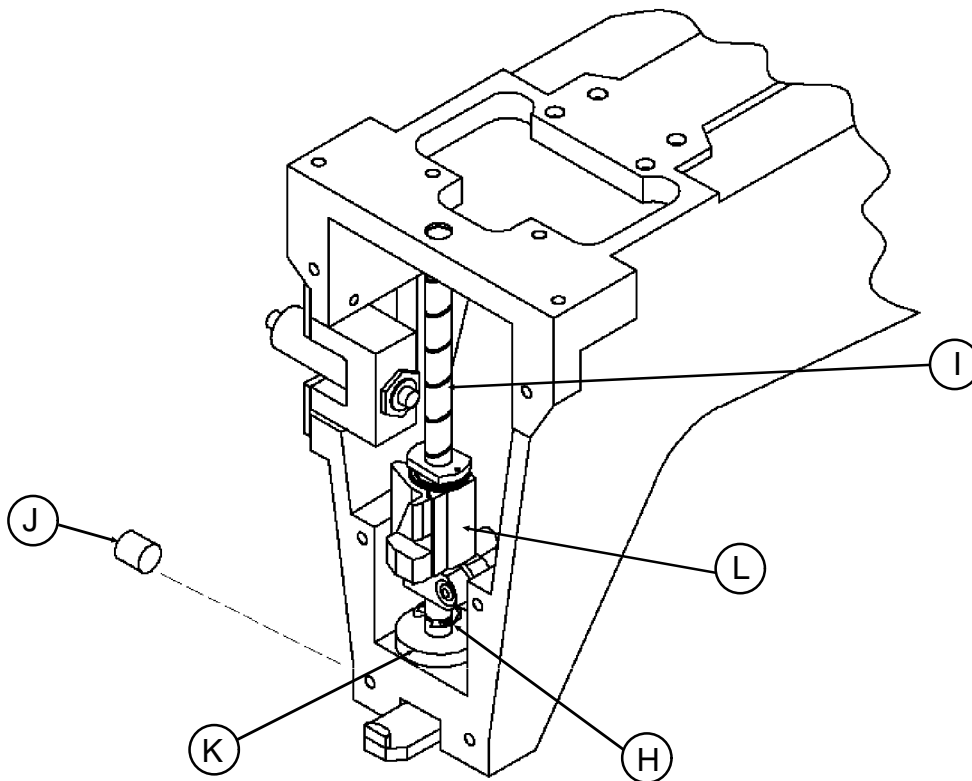

Figure 4
11. Remove the "C" Clip (Figure 4-H ) from the bottom of the Driver Bar (Figure 4-I).
12. Loosen the Driver Bar Set Screw (Figure 4-J).
13. Slide the Driver Bar up and out of the Head, taking care not to drop the Roller Bearing (Figure 4-K) in the bottom of the Head Cavity.
14. Pull the old Reciprocator (Figure 4-L) out of the Head and discard it.
13. Remove the "C" Clip (Figure 4-H) from the bottom of the Driver Bar (Figure 4-I).
14. Loosen the Driver Bar Set Screw (Figure 4-J).
15. Slide the Driver Bar up and out of the Head, taking care not to drop the Roller Bearing (Figure 4-K) in the bottom of the Head Cavity.
16. Pull the old Reciprocator (Figure 4-L) out of the Head and discard it.